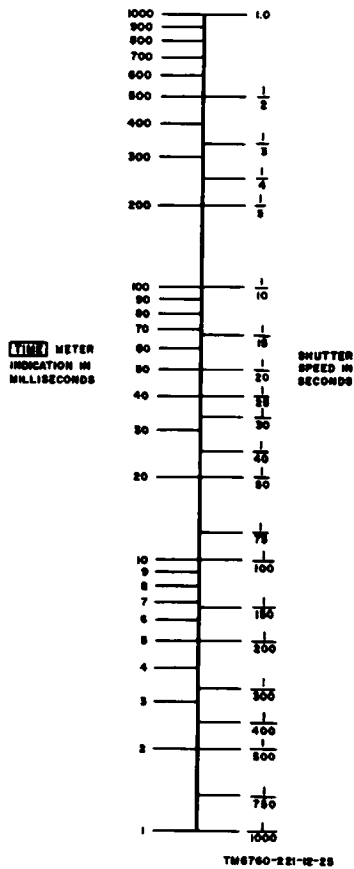

Figure 25. Time meter indication and shutter speed conversion chart.
- (7) Convert the TIME meter indication ((6) above) to shutter speed (fig. 25) and compare it with the requirements contained in the camera manual (TM 11-6720-207-35).